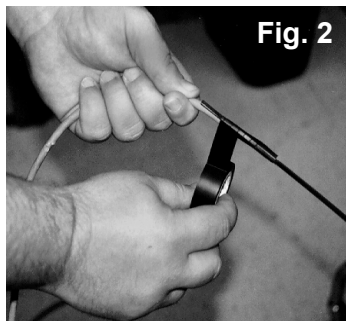

Fig. 2
3. Strongly secure the ty-wrap to the cable with electrical or similar tape. It is important to have a sufficient length of the ty-wrap secured to the cable (2" minimum) (Fig. 2).